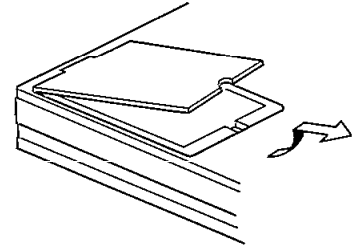

Figure 4
3. Carefully raise the RAM board cover and remove it as shown in Figure 4.